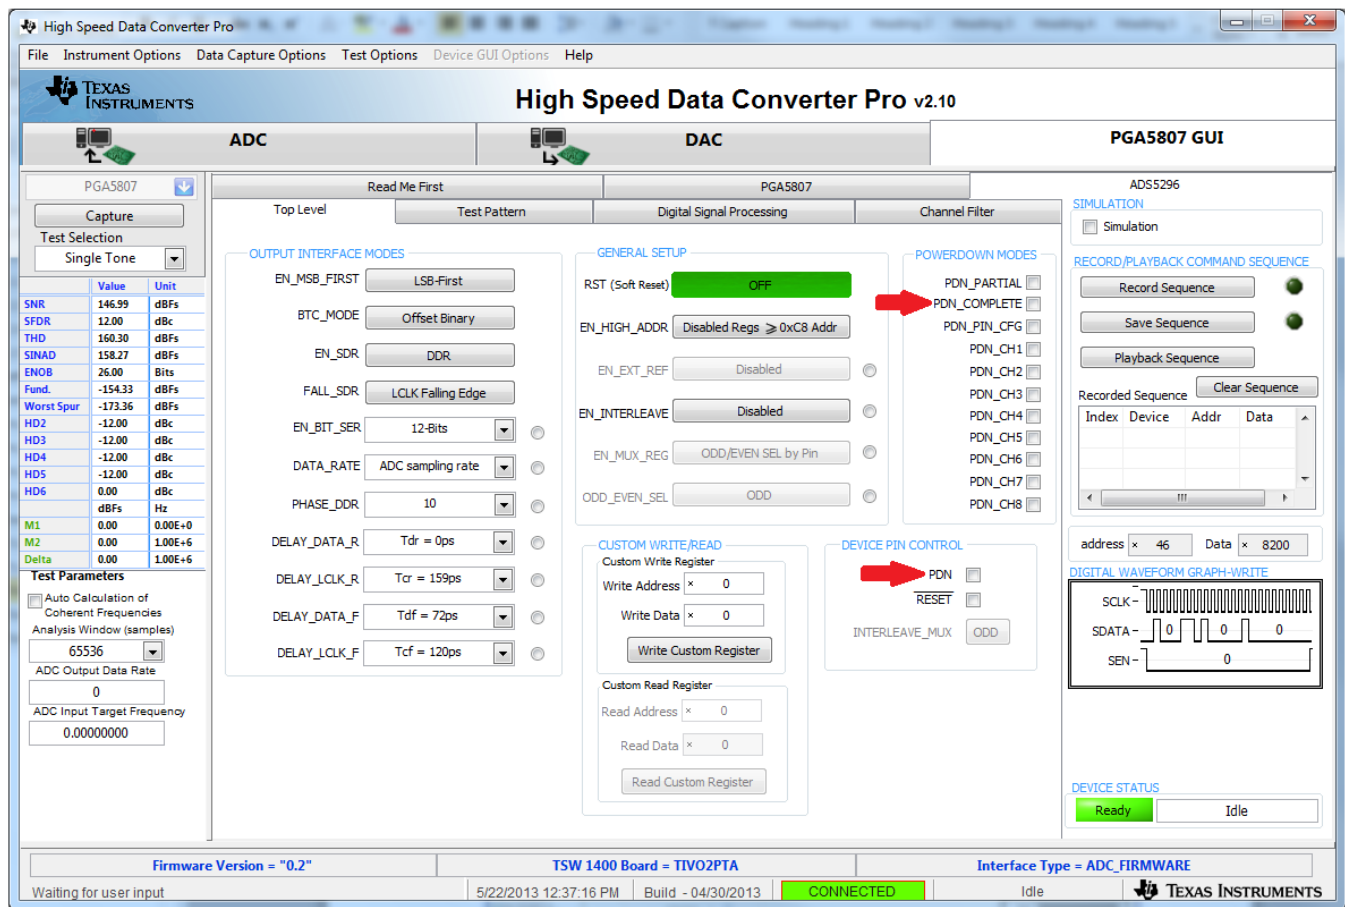

Figure 31. ADS5296 Tab of the PGA5807 GUI
As shown in Figure 31, the ADS5296 tab contains all controls pertaining to the ADS5296 device installed on the EVM.
4. Verify that communication between the PGA5807 EVM and the PGA5807 GUI is established by toggling either the **PDN_COMPLETE** checkbox or the **PDN** checkbox, as indicated on Figure 31. Checking either box should make +5-V power supply current drop from ~650 mA – 750 mA to ~350 mA – 450 mA. If the DC current is approximately 480 mA, with both power down boxes unchecked, it indicates that the ADS5296 is not receiving the sampling clock. Please ensure that the 3-pin headers are configured as described in Section 3.2. Before continuing, ensure that both power down boxes are left unchecked. At this point, the GUI is confirmed to be communicating correctly with the EVM and testing can begin.